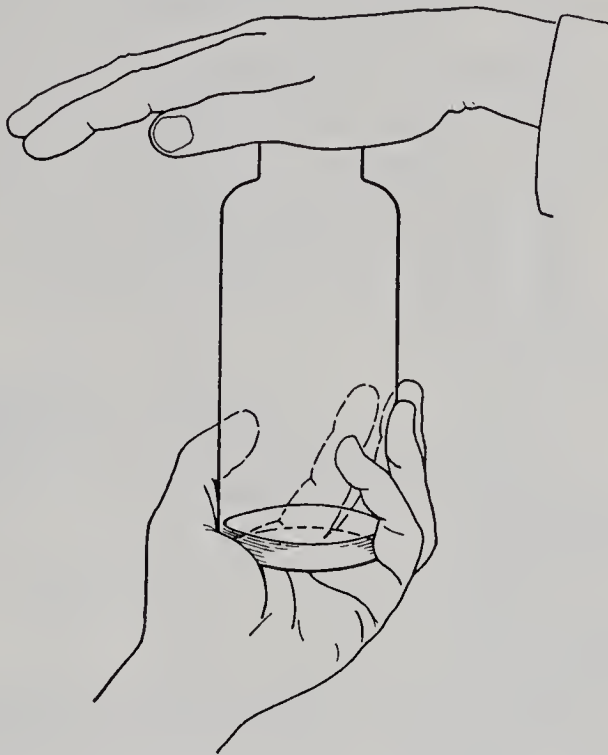

Fig. 53. Testing the solubility of a gas.
4. Add 10 ml. of water to a bottle of carbon dioxide. Close the mouth of the bottle with the palm of your hand and shake the bottle vigorously (Fig. 53). Add another 10 ml. of water and repeat the procedure.